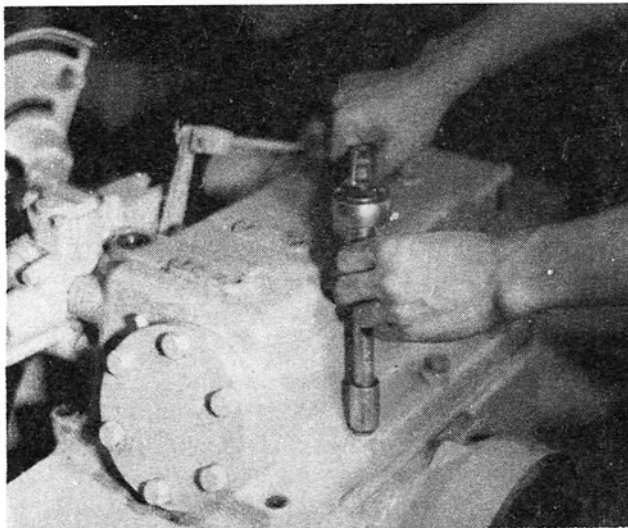

Figure 2
5. Remove the seat assembly and the hydraulic lift cover assembly, Figure 2.